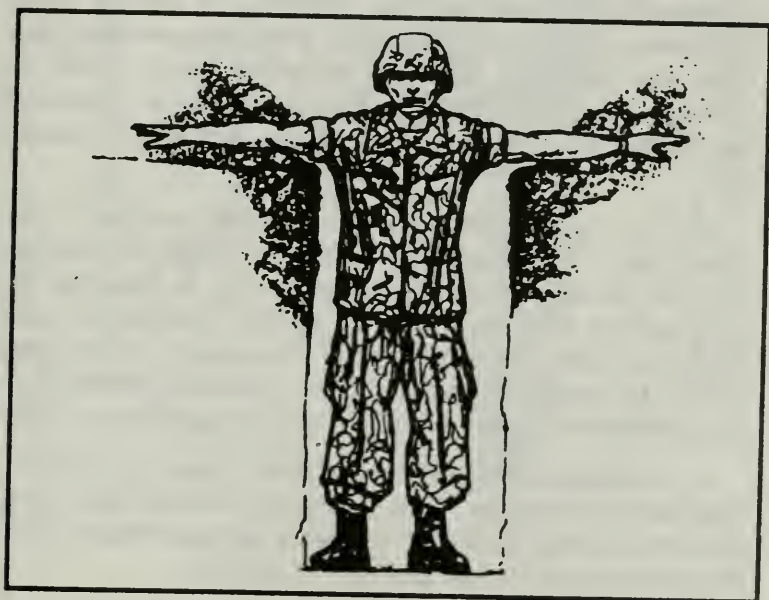

Figure 222. Fighting position armpit deep.
c. Next, dig in. Make the hole armpit deep (Figure 222). If you have a natural frontal parapet, carry away